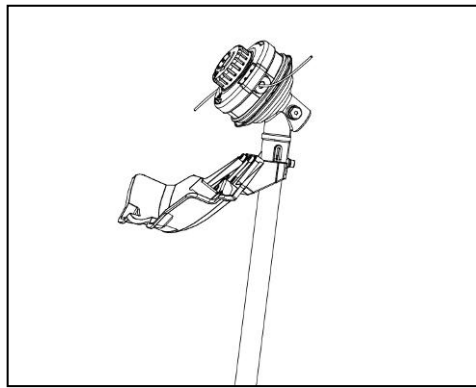

Fig. 4B
3. Lock the guard in place and screw the four bolts on with the washers (Fig. 4B).